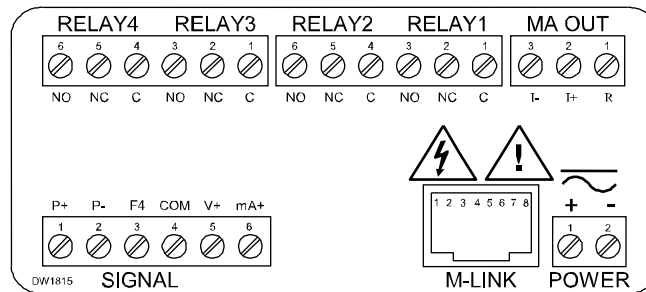

Figure 6. Connector Labeling for Fully Loaded Meter
Power connections are made to a two-terminal connector labeled POWER on Figure 6 on page 11. The meter will operate regardless of DC polarity connection. The + and - symbols are only a suggested wiring convention.
Signal connections are made to a six-terminal connector labeled SIGNAL on Figure 6. The COM (common) terminal is the return for the 4-20 mA and the ± 10 V input signals.
Serial communications connection is made to an RJ45 connector labeled M-LINK on Figure 6. For interfacing to the meter, use the PDA1232 for RS-232 or the PDA1485 for RS-485. The same port is used for interfacing with all expansion modules (e.g. external relays, digital I/O).
Relay connections are made to two six-terminal connectors labeled RELAY1 – RELAY4 on Figure 6. Each relay's C terminal is common only to the normally open (NO) and normally closed (NC) contacts of the corresponding relay. The relays' C terminals should not be confused with the COM (common) terminal of the INPUT SIGNAL connector.